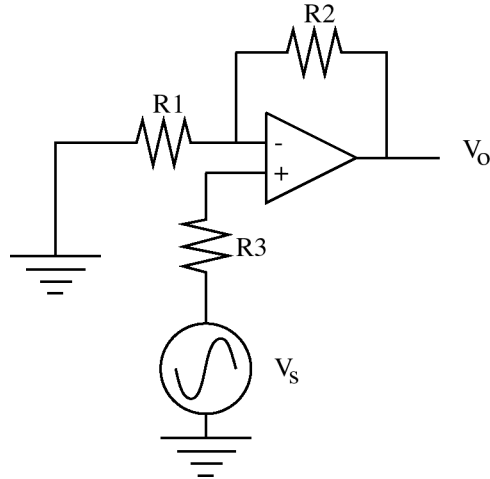

Figure 5: Non-inverting operational amplifier circuit
The basic configuration for a non-inverting amplifier is shown in Figure 5. The voltage gain for this circuit is $1 + \frac{R_2}{R_1}$. It will be left to you as an exercise to verify this voltage gain in your lab report.
- 1) Using the three resistors you acquired for Section 6.2, assemble the circuit shown in Figure 5.
1. Verify that the voltage gain of the circuit shown in Figure 5 is $1 + \frac{R_2}{R_1}$, using the same general procedures as outlined in Section I. You may assume the op-amp is ideal.